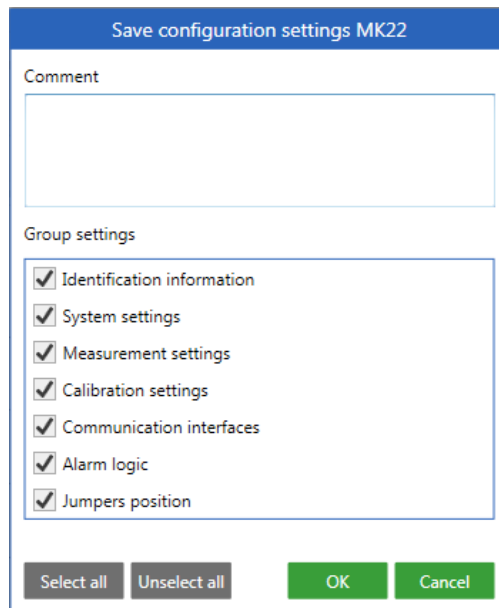

Figure 15 - Selecting parameter groups
3) select parameter groups to be saved and press **OK** button (Figure 15). Upon that settings will be saved into file.